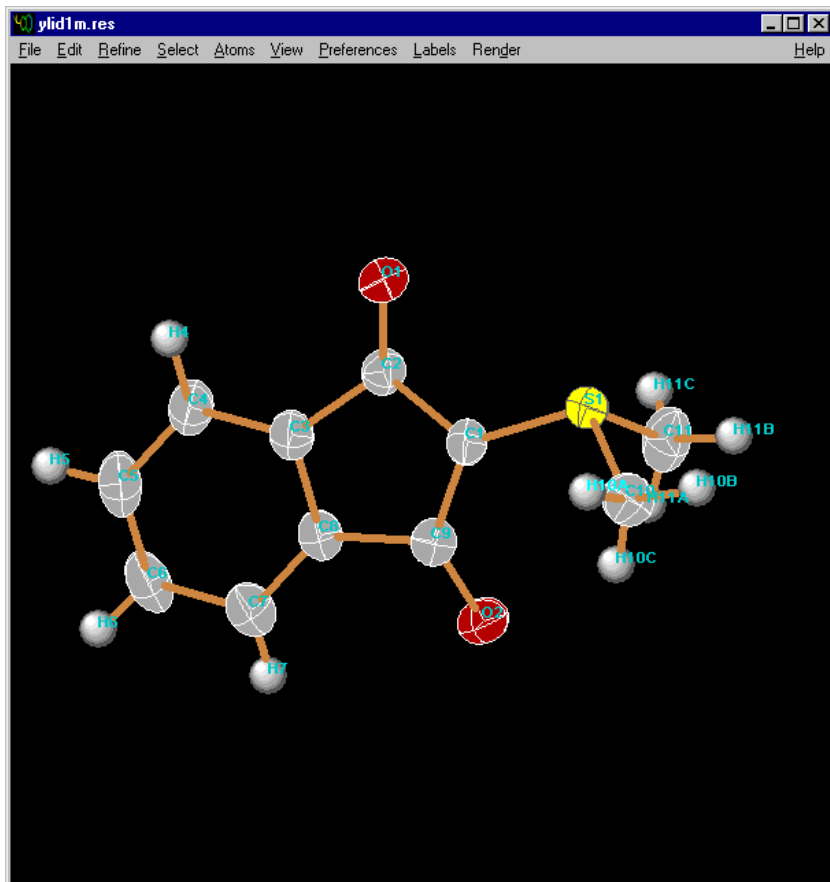

Figure 6-39. Thermal Ellipsoids
47. To display the thermal ellipsoids for the final structure, click on the background with the right mouse button and select Thermal Ellipsoids (Figure 6-39).